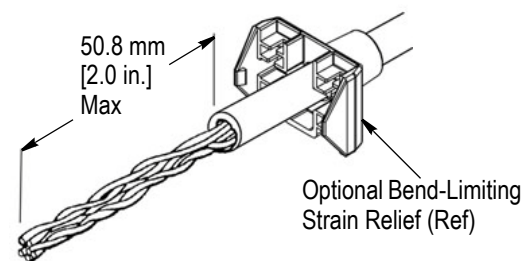

Figure 2
- Strip back only as much of the cable jacket as necessary to perform the termination. See Figure 2.
- If using the optional bend-limiting strain relief, slide it over cable jacket as shown in Figure 2.